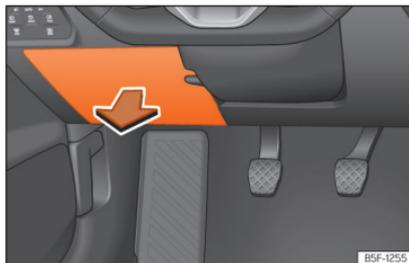

Fig. 55 On the driver's side dashboard: fuse box cover.
- Open: fold the cover down »» Fig. 55.